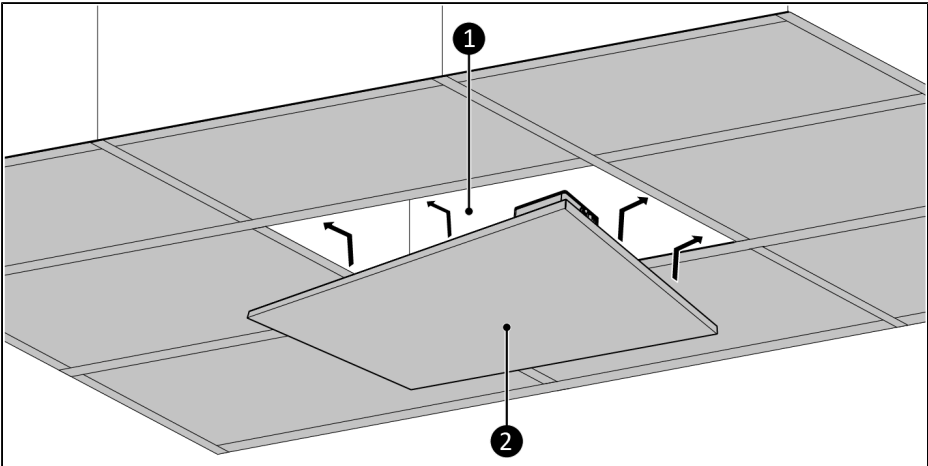

Figure 40.
1. Remove the ceiling plate (Figure 40, pos. 1) from where you wish to install the device.
3. Carefully place the device (Figure 40, pos. 2) in the suspended ceiling grid (Figure 40, pos. 1).